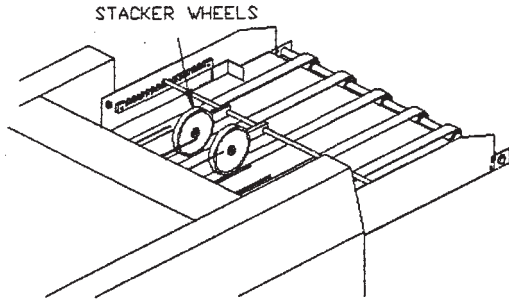

FIG 5
6. Place the stacker wheel assembly on the stacker wheel adjustment rack. (Fig. 5)